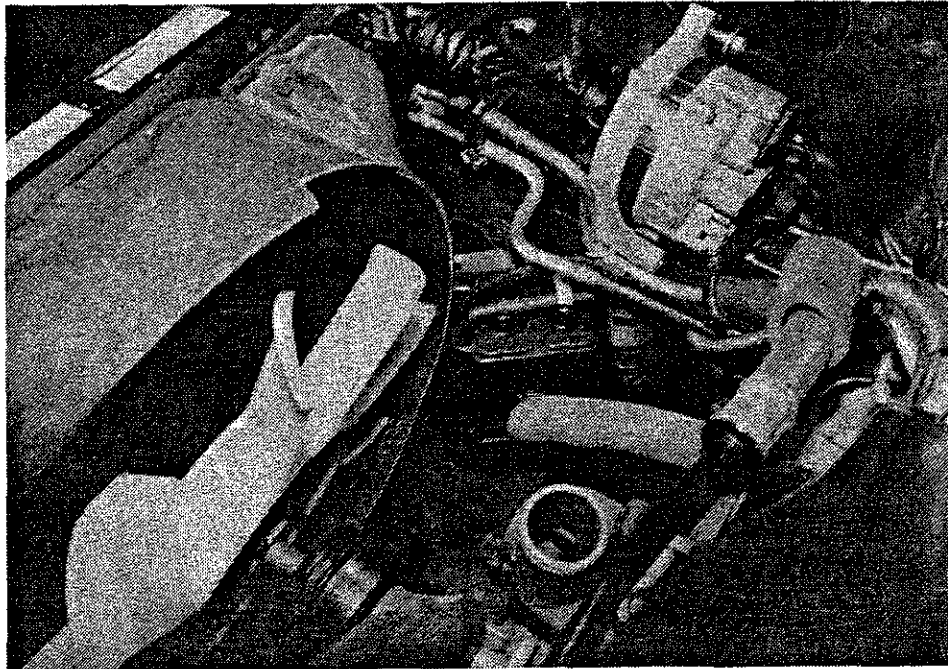

FIGURE 1
24. Relocate Evaporative Canister by using the front bolt in the rear Bracket hole. When relocated, Canister will be at an angle, as shown in Figure 1.